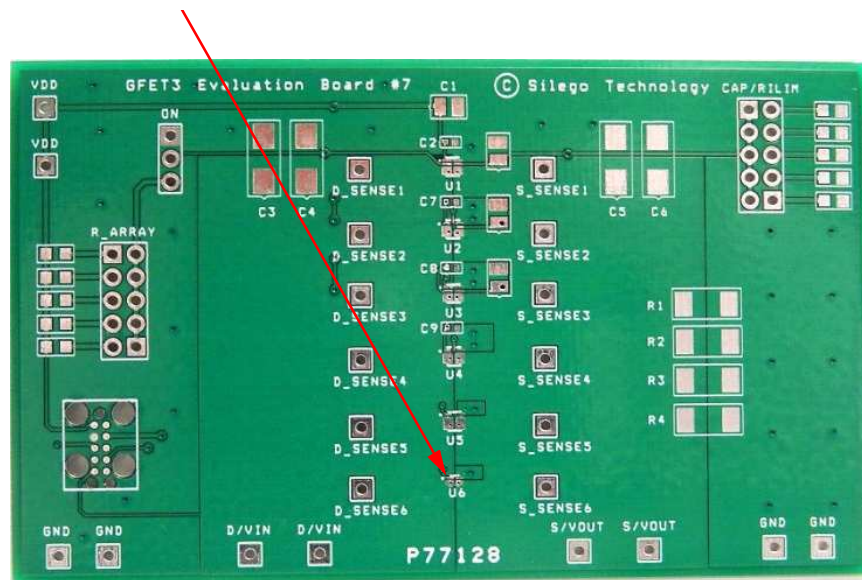

Figure 1. SLG59M1440V Evaluation Board.
1. Since the D and S pins dissipate most of the heat generated during high-load current operation, it is highly recommended to make power traces as short, direct, and wide as possible. A good practice is to make power traces with an absolute minimum width of 15 mils (0.381 mm) per Ampere. A representative layout, shown in Figure 1, illustrates proper techniques for heat to transfer as efficiently as possible out of the device;
A GreenFET Evaluation Board for SLG59M1440V is designed according to the statements above and is illustrated on Figure 1. Please note that evaluation board has D\_Sense and S\_Sense pads. They cannot carry high currents and dedicated only for  $R_{DS(ON)}$  evaluation.